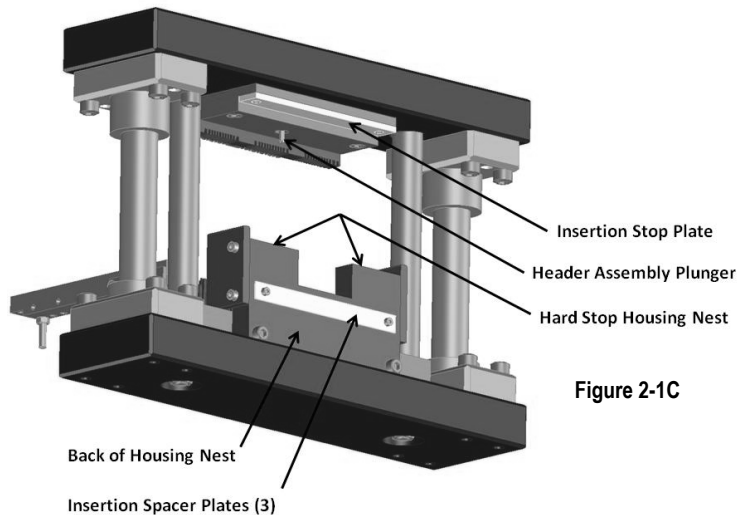

Figure 2-1C
1. The Insertion spacer plates (3) of 0.30mm thickness have been provided to account for thicker PCB's up to 2.40mm thick. These insertion spacer plates are attached to the back of the housing nest for storage purposes. See Figure 2-1C.
3. Remove insertion stop plate from upper tooling. Stack appropriate number of spacer plates onto top of insertion stop plate and reattach to upper tooling. Store any unused spacer plates on the back of the housing nest. See Figure 2-1C.
1. Loosen the M10 nut on the plunger (located in hole of the top plate of fixture) using a deep metric socket. See Figure 2-1C and 2-2.
5. Cycle the press so that the upper tooling contacts the top of hard stop of the housing nest. Failure to contact the hard stop will result in PCB insertion depth variation. See Figure 2-1C.